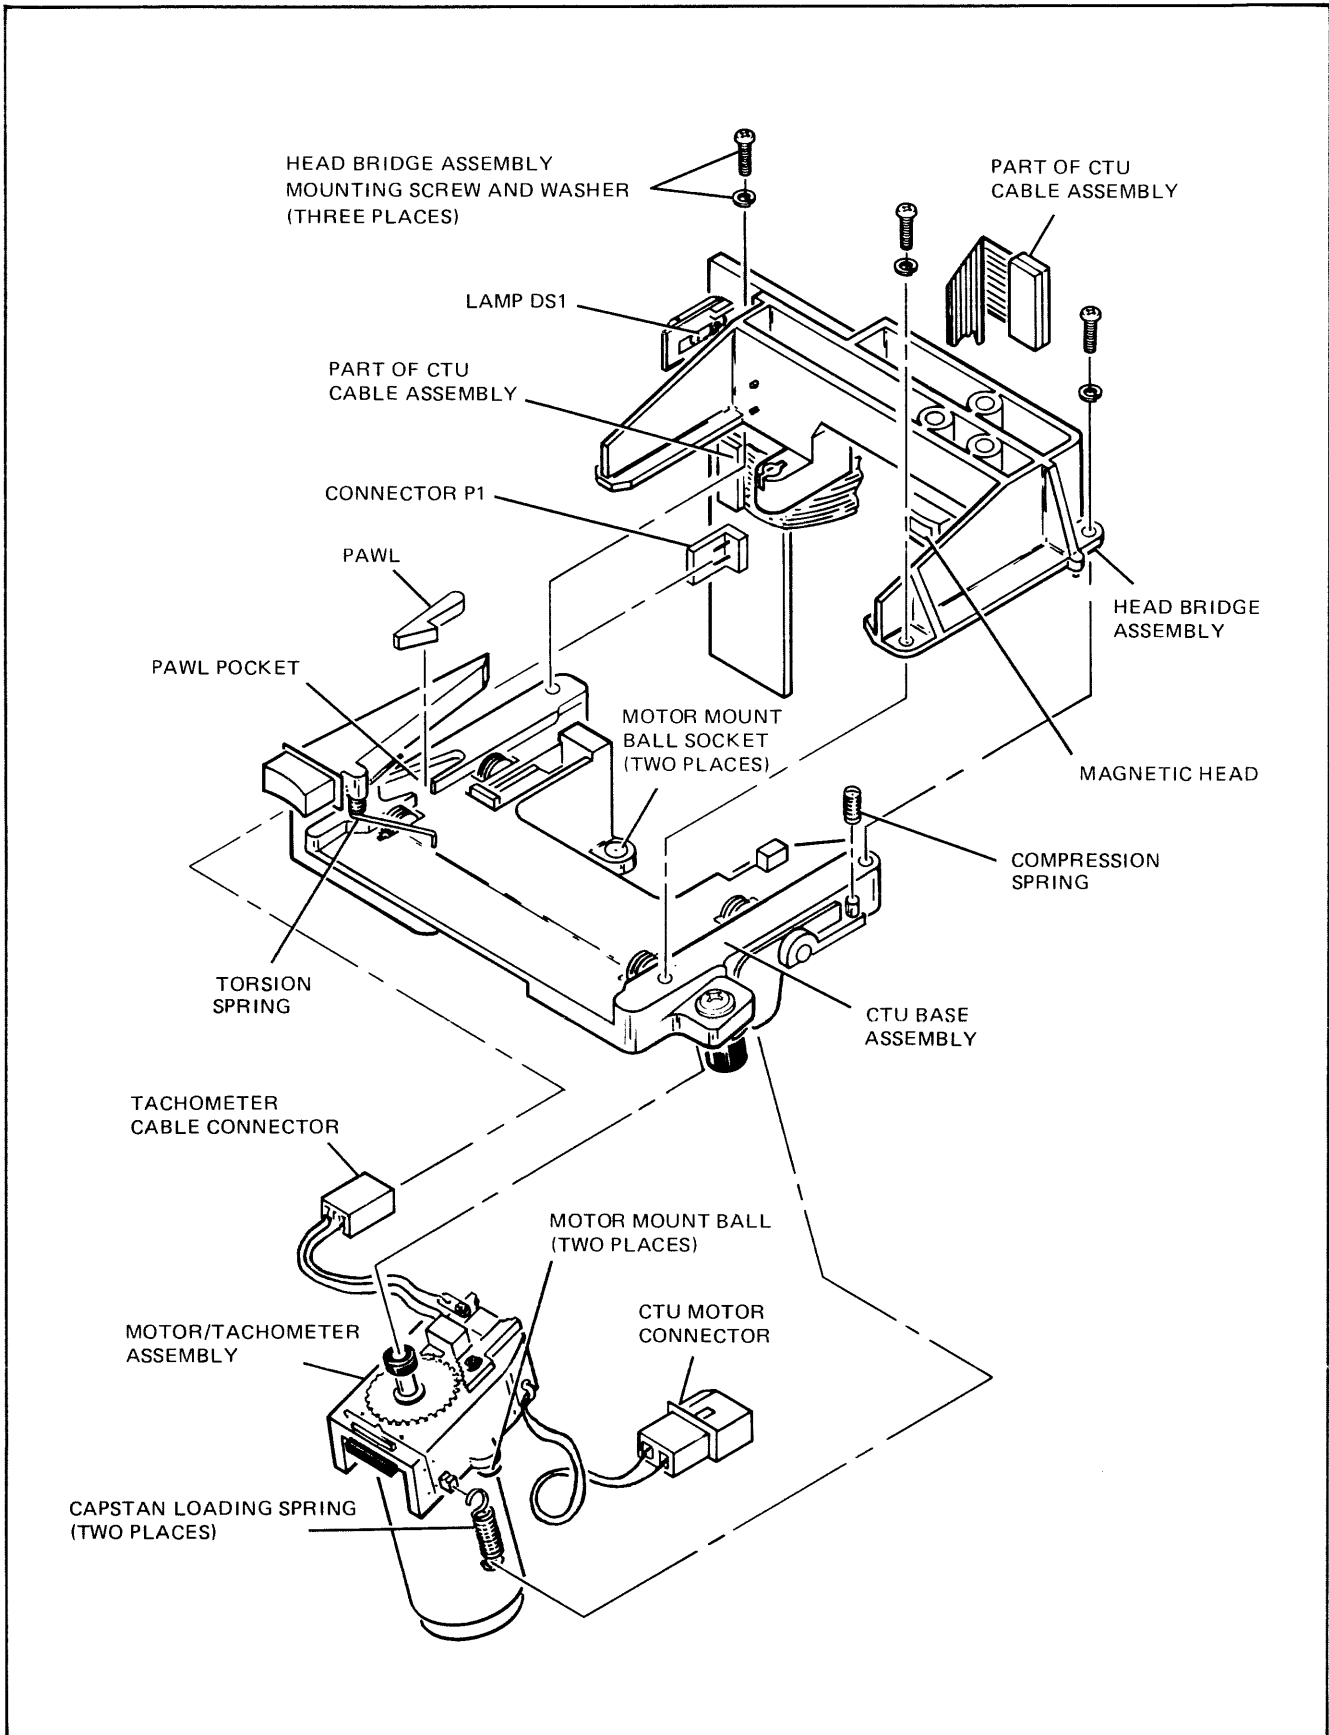

Figure 4-2. CTU Transport Assembly, Exploded View
The cartridge tape modules consist of the CTU Interface PCA, Read/Write PCA, and two CTU Transport Assemblies. No special instructions are required to remove these modules except to exercise caution when handling the CTU Transport Assemblies to ensure that the magnetic heads are not damaged. However, before attempting to replace any cartridge tape modules, refer to the detailed installation instructions for the applicable module in paragraph 1-8. It should be noted that when removing the front bezel (15, figure 4-4) to replace a defective CTU Transport Assembly, that the four screws (16) securing the bezel in place should be loosened only to the extent necessary to remove the bezel and should not be completely removed from the bezel. Completely removing the screws (16) may result in damage or loss of the associated o-rings (17). If a malfunction develops in a CTU Transport Assembly, it is recommended that the entire CTU Transport Assembly be replaced rather than replacing a defective transport sub-assembly. However, if it becomes necessary to disassemble a CTU Transport Assembly, first refer to figure 4-2 and then disassemble the transport in reverse order of the assembly instructions contained in the following paragraph.
- a. Attach two Capstan Loading Springs (figure 4-2) to Motor/Tachometer Assembly casting as shown in figure 4-2.